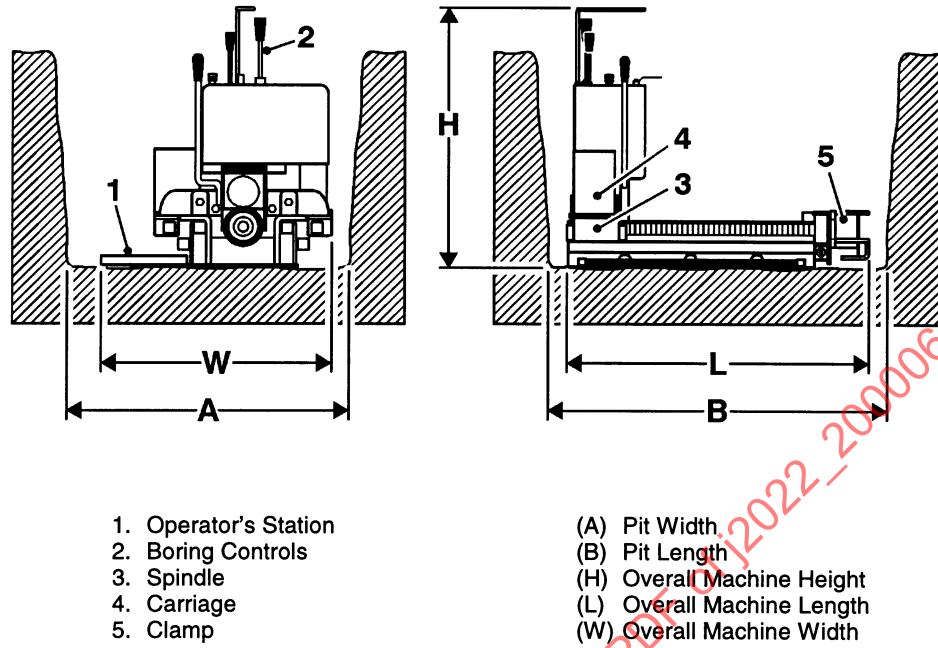

FIGURE 9—PIT LAUNCHED MACHINE
4.5.1.3 *Pit-Launched Units*—Refer to Figure 9.